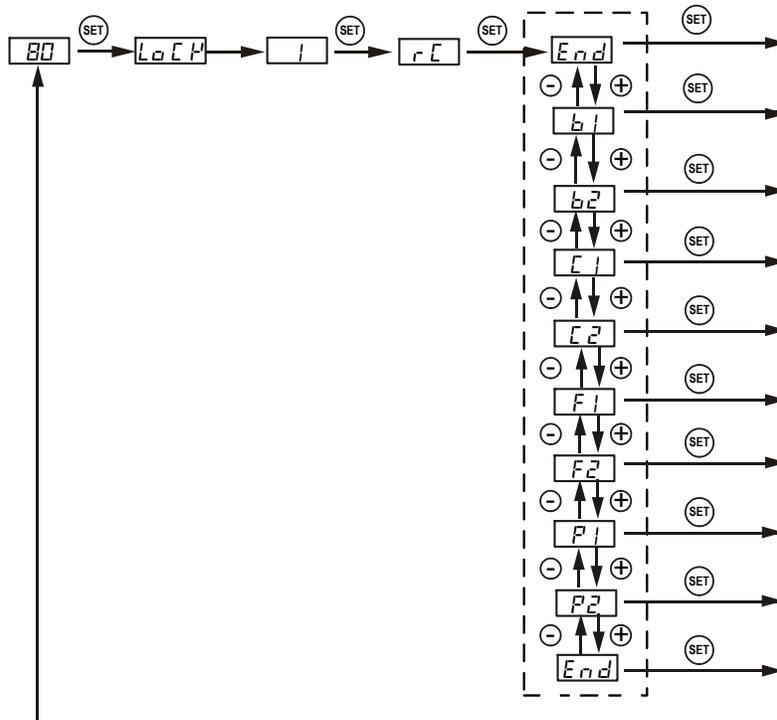

Figure 11. Flow chart of recalling a recipe.
**WARNING:** Your current program will be overwritten by the selected recipe. Please write it down somewhere if it is important to you. To recall a recipe, press and hold SET key for 2 seconds until the Parameter Window displays "LoCK". Release the SET. The display will show "0". Use "+" and "-" keys to adjust the display to 1 and press SET. The display will show "rC" for a second and then the value "End". If you press SET key now, you will exit this mode without overwriting any existing programs. This can prevent your current program from being accidentally overwritten by a recalled program. Use "+" or "-" key to locate the recipe you want to recall. If you press "+" key repeatedly, you will see "End", "b1", "b2", "C1", "C2", "F1", "F2", "P1", and "P2" one by one. After you locate the recipe that you want to recall, press the SET key to select. Current program will be overwritten by the selected program. Figure 11 shows the flow chart of how to recall a recipe.